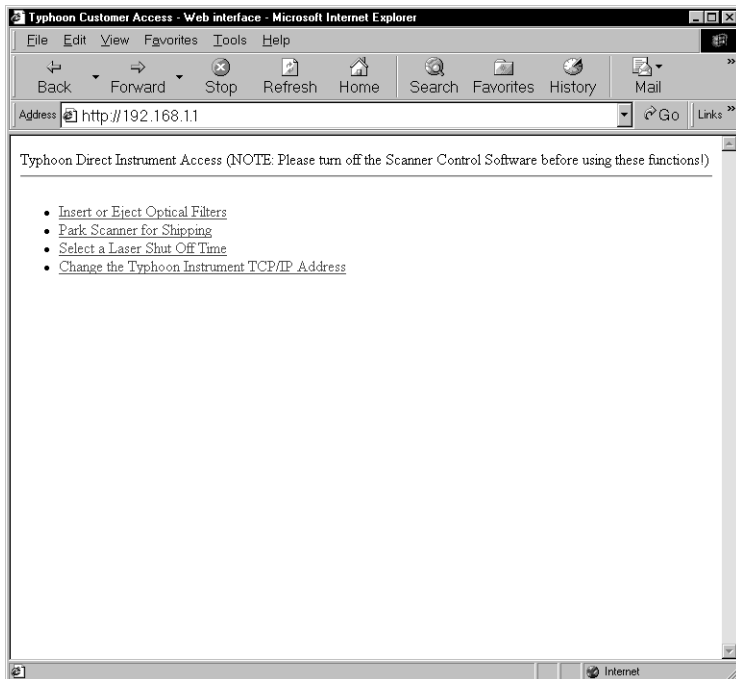
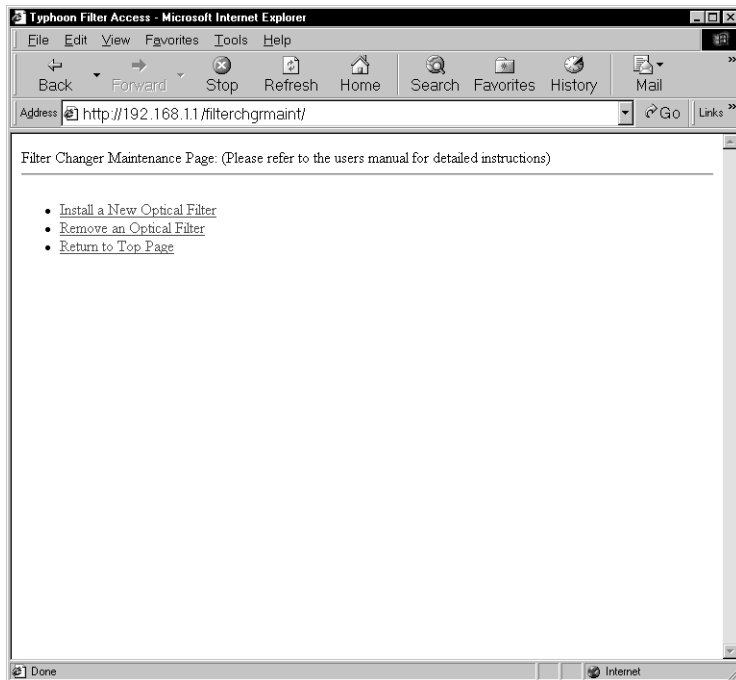

Figure 13-1. The Typhoon Direct Instrument Access window.
Figure 13-4. The Filter Changer Maintenance Page window.
4. Click **Go**. The Typhoon Direct Instrument Access window appears in the browser window (figure 13-1).
2. In the Typhoon Direct Instrument Access window (figure 13-1), click the **Insert or Eject Optical Filters** option. The Filter Changer Maintenance Page window appears (figure 13-4).
1. In the Typhoon Direct Instrument Access window (figure 13-1), click the **Insert or Eject Optical Filters** option. The Filter Changer Maintenance Page window appears (figure 13-4).